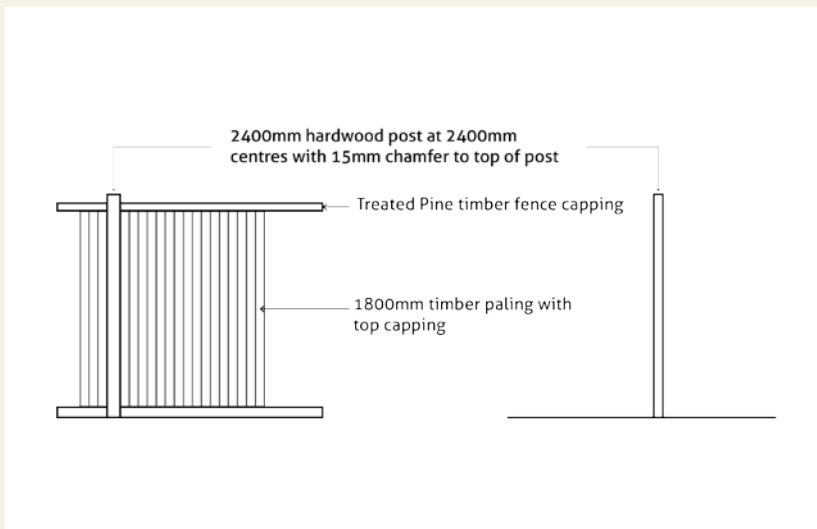

Figure 13. Side and rear boundary fencing
- 21.1 Side and rear boundary fencing is to be constructed of 1800mm timber paling with 20mm overlap, top capping, and posts at 2700mm spacing. Refer Figure 13.